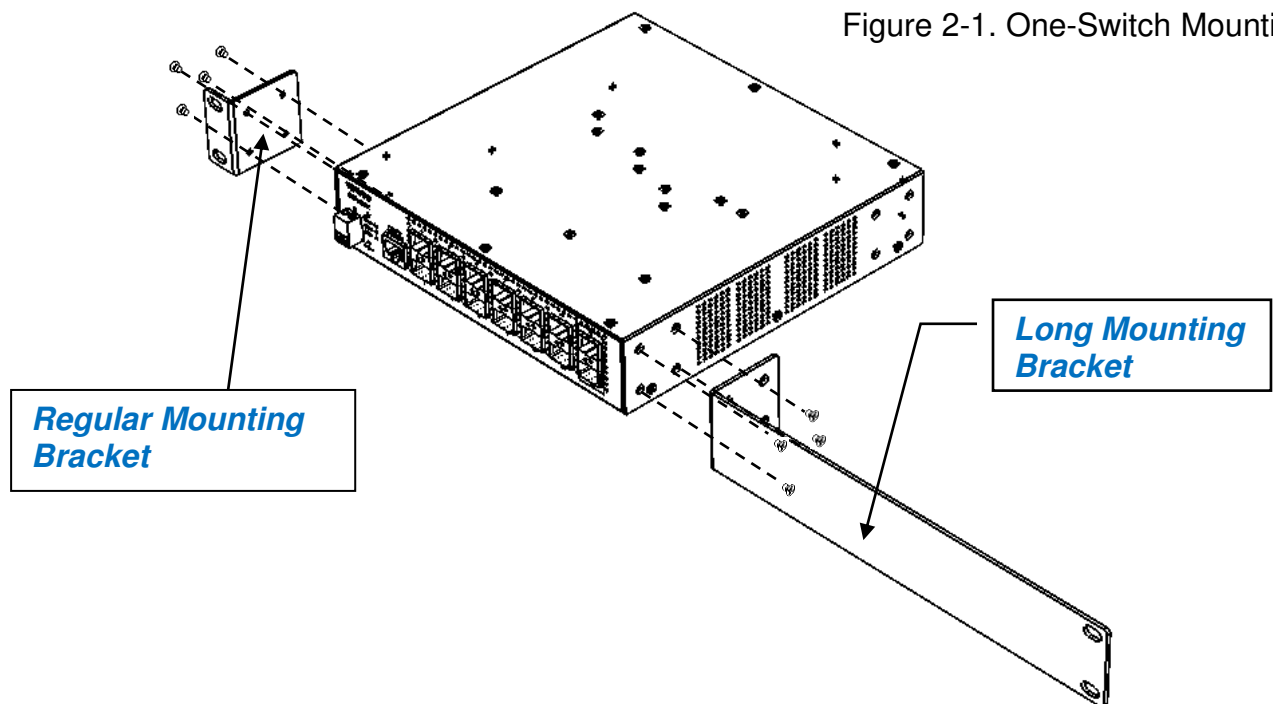

Figure 2-1. One-Switch Mounting
- 1.1. Attach the supplied regular mounting bracket to one side of the switch that you would like to install in the rack. (See Figure 2-1)
- 1.2. Attach the supplied long mounting bracket to the other side of the switch. (See Figure 2-1)
**Step 2.** Insert the screws provided in the rack-mount kit through each bracket and into the bracket mounting holes in the switch. (See Figure 2-1)